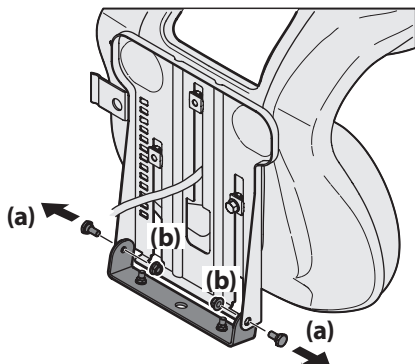

Figure 1
2. Remove the two shoulder bolts (a) and flange lock nuts (b) in the seat pan as shown in Figure 1.